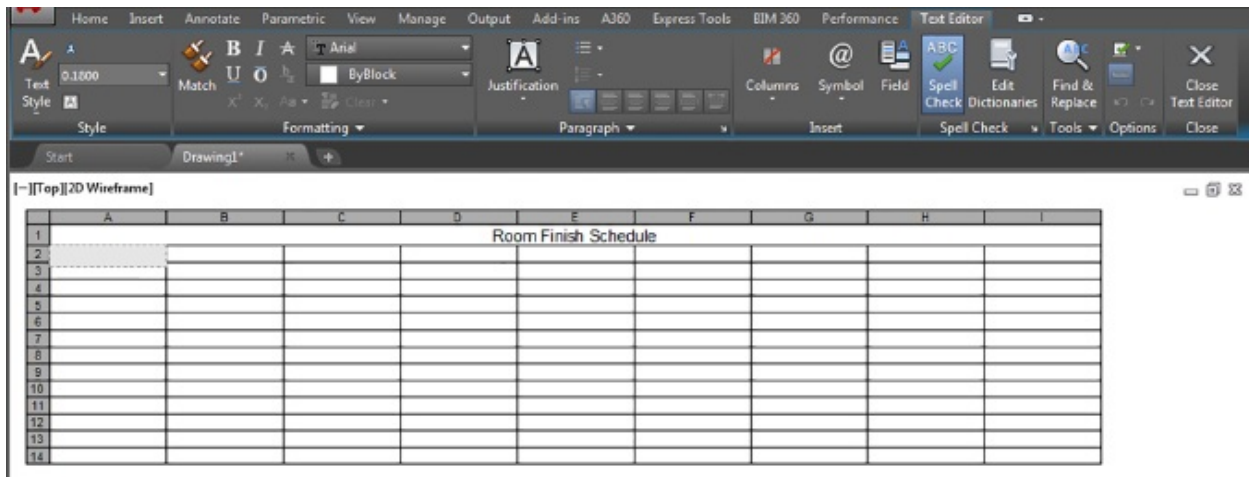

FIGURE 10.8 Double-click the first cell shown here.
- Double-click in the first cell at the top left, just below the Room Finish Schedule label (see Figure 10.8). The cell turns gray, and the Text Editor tab appears in the Ribbon. You also see labels across the top and left side showing the row and column addresses.